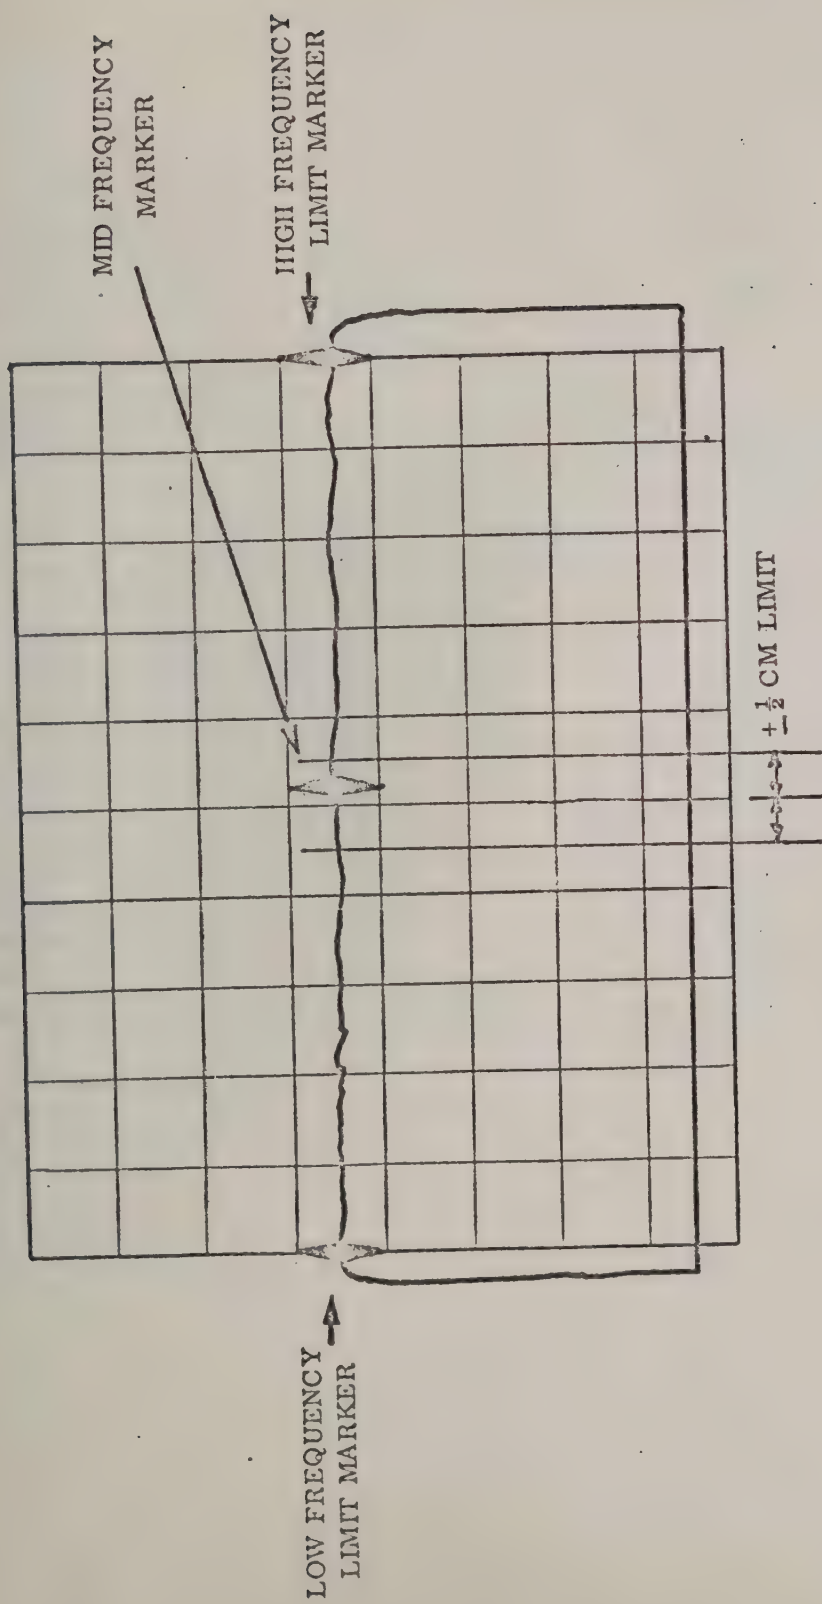

FIGURE 3.2 LINEARITY DISPLAY
- (1) Turn on the appropriate Harmonic Markers as shown in Table 3.1.
- (2) Adjust the Variable Bandwidth control so that the RF is swept between the markers indicated in Table 3.2.
- (3) Adjust the Variable Bandwidth and Center Frequency controls so as to place the sweep limit markers exactly on the scope extreme left and right hand graticules, see Figure 3.2.
- (4) The mid frequency marker should now fall within 0.5 CM (5%) of the center graticule.
- (5) Check linearity at frequencies indicated in Table 3.2.